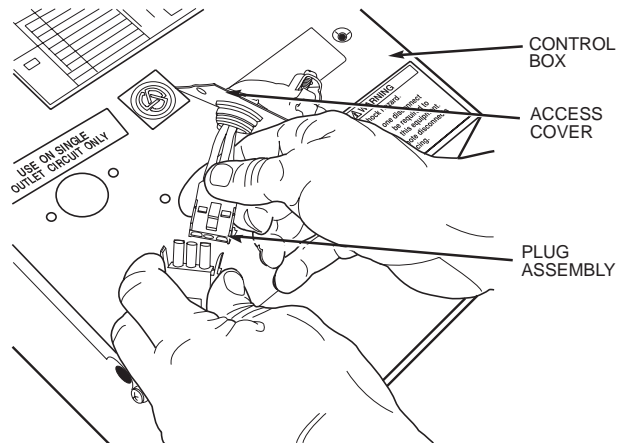

FIGURE 4 — DISCONNECTING PLUG ASSEMBLY ON HARDWIRED UNITS
4. Pull out the plug assembly and disconnect (see Figure 4).